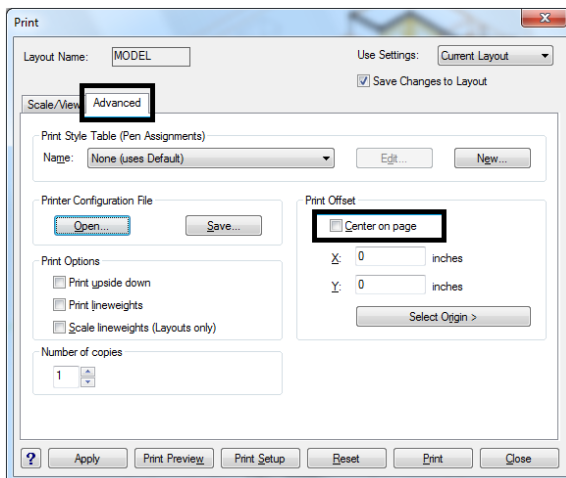

Fig. 331 – Advanced tab – Center on page option
- in this tab it is necessary to select the **Center on page** option in the **Print Offset** field (Fig. 331) to place the printout directly in the middle of the page;